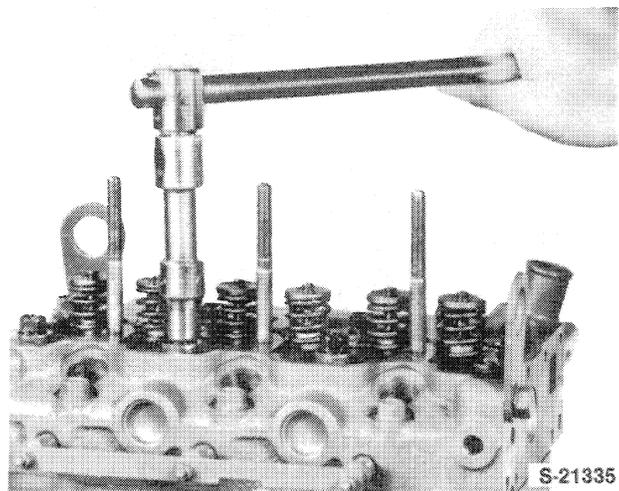

Figure 27
14. Remove the cylinder head bolts by loosening the bolts a half turn at a time to prevent warping the head, Figure 27.